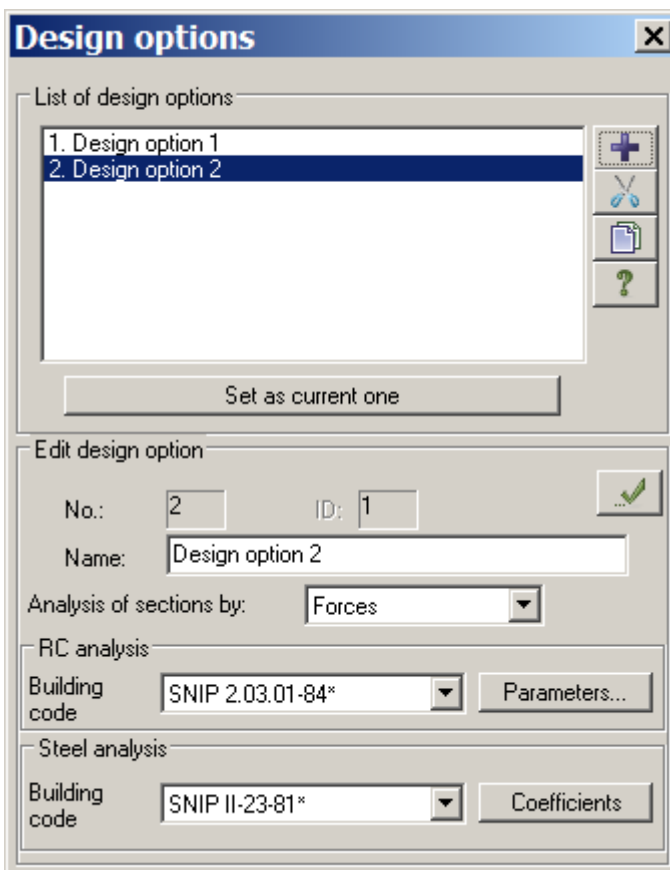

Figure 2.7 Design options dialog box
- ⇒ In the **Design options** dialog box (see Fig.2.7), define parameters for the first design option: